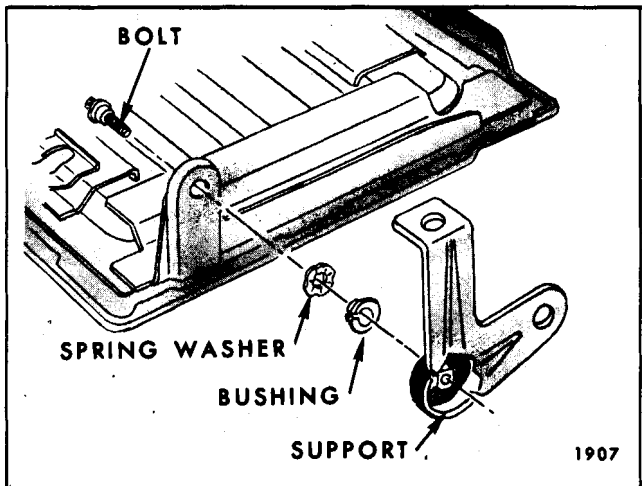

Fig. 14-65-Third Seat Cushion Panel and Support - "A" Body Three-Seat Styles
To remove support, remove cushion from panel assembly; then, remove bolt securing support to cushion (Fig. 14-65).
3. To install, reverse removal procedure. If support was removed from seat cushion panel, make sure bushing and spring washer are properly installed (see Fig. 14-65).